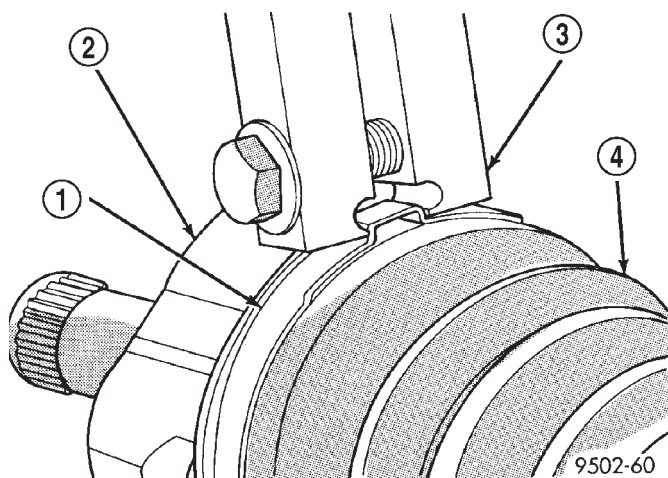

Fig. 37 Crimping Tool Installed on Sealing Boot Clamp
- Place crimping tool C-4975-A over bridge of clamp (Fig. 37).